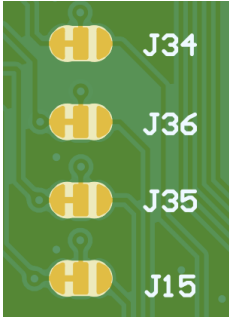

Figure 25: Jumpers J15, J34, J35, and J36 default connection
- Toggle the state of jumpers **J15**, **J34**, **J35**, and **J36** shown in Figure 25 to access Flexcomm1 interface in mikroBUS.